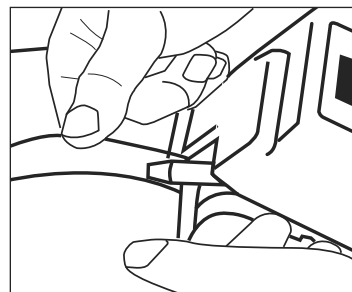

Figure 4
3. Slide the air channel over the end of the air fill tube. (See Figure 4)